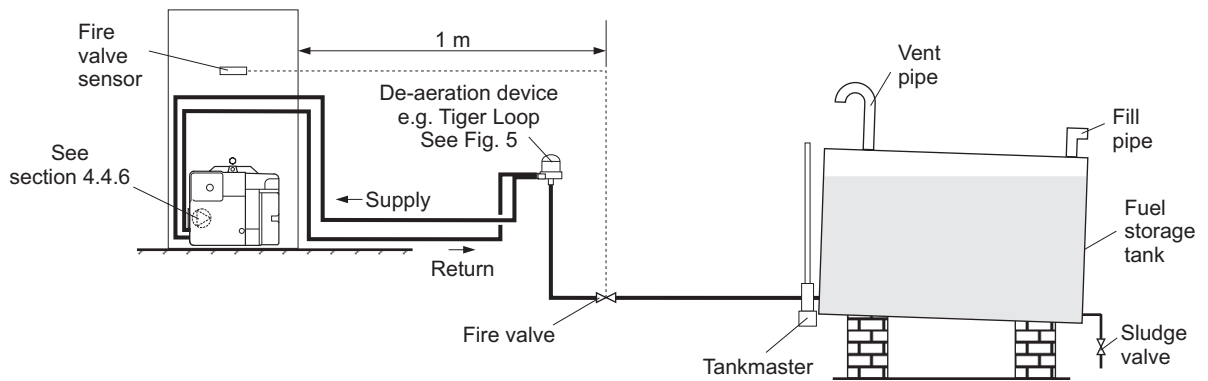

Fig. 4 - De-aeration device system
4.4.5 Tiger Loop system - (See Figs. 4 and 5)
- 2 The de-aerator is connected close to the boiler as a two pipe system (omitting the non-return valve) as shown in Fig. 4. Refer to the manufacturers instructions supplied with the de-aerator. The de-aerator **must** be mounted vertically.
- 3 To be used with a de-aerator, the burner **must** be fitted with an additional flexible fuel hose (a flexible fuel hose (600 mm) and $\frac{3}{8}$ " to $\frac{1}{4}$ " BSP male adaptor are available to purchase from Grant Engineering (UK) Limited), Part No. RBS104. See Section 4.4.6.